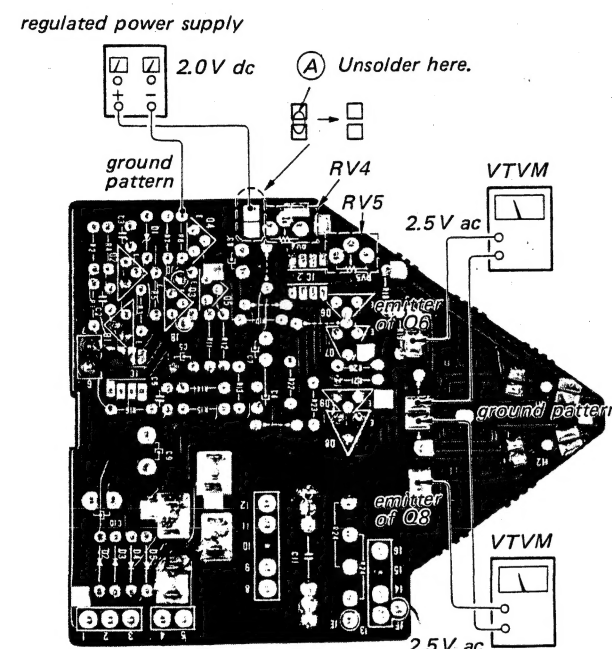

Fig. 6-1
2. Unsolder the portion shown by (A) and connect the regulated power supply as illustrated in Fig. 6-1.